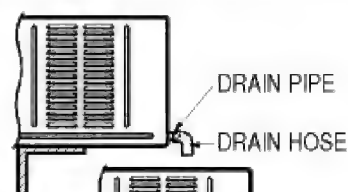

Fig. 1
2. Connect a drain hose to the drain pipe as shown in Fig. 1.